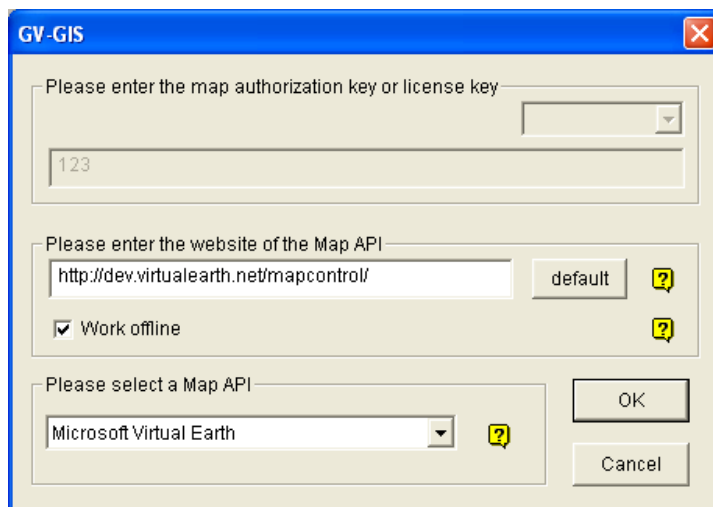

Figure 4-44
1. If you like to use the maps created yourself, overwrite the files at :GV folder\GIShtm-User, and select **User Defined** from the “Please Select a Map API” drop-down list (Figure 4-44).